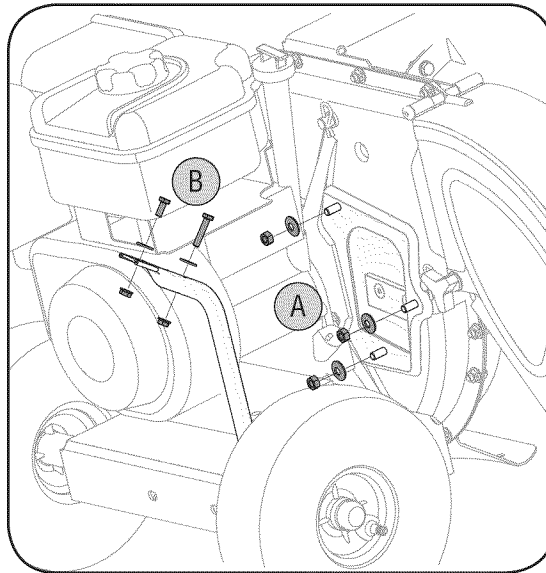

Figure 5
- a. Remove the three cupped washers and hex nuts from weld studs around the opening on the side of the impeller housing. See Figure 5.